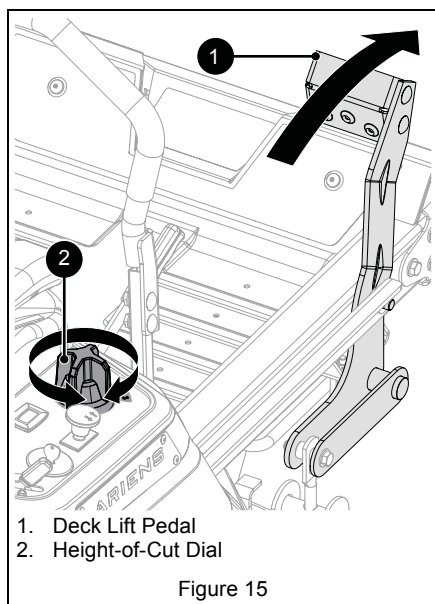

Figure 15
5. Set cutting height. See Figure 15.